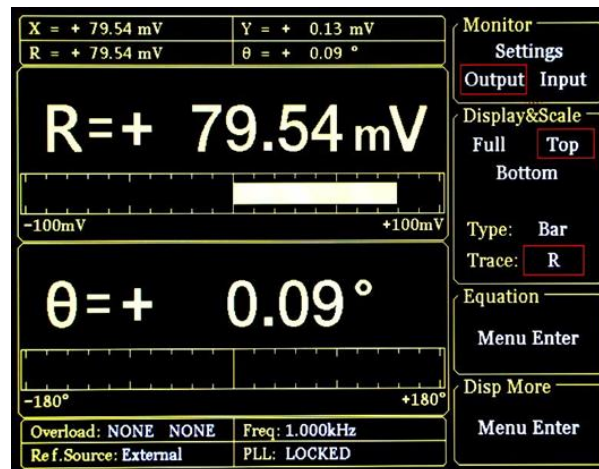

Fig.95 Monitoring Bar Display
Press [DISPLAY] in front panel to enter the submenu. Then, press [soft key 1] to set the $\langle\text{Monitor}\rangle$ from $\langle\text{Setting}\rangle$ to $\langle\text{Output}\rangle$. Now the monitor bar will display the value of $\langle R\rangle$, $\langle X\rangle$, $\langle Y\rangle$ and $\langle\theta\rangle$, as is shown in Fig.95.